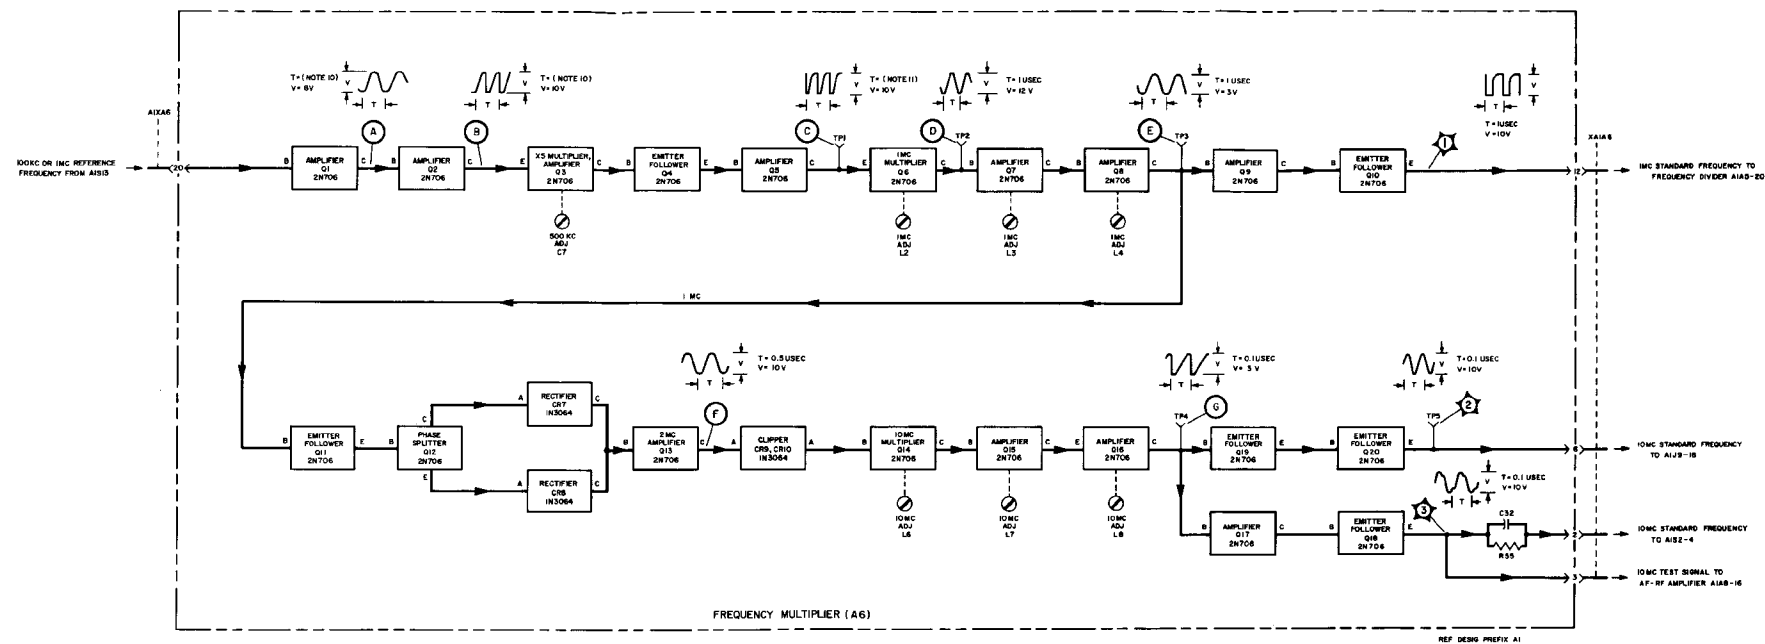

Figure 4-10. 10 Mc and 1 Mc Multiplier, Functional and Servicing Block Diagram
a. 10 MC AND 1 MC MULTIPLIER FUNCTIONAL DESCRIPTION.- The 10 mc and 1 mc multiplier receives the 1-mc standard frequency produced by the radio frequency oscillator or an external 100-kc or 1-mc standard frequency. The multiplier amplifies, multiplies, and shapes these signals to produce the 1-me and 10-mc standard frequencies used throughout the counter. It is a separate assembly constructed entirely on printed circuit board A1A6. Figure 4-10 shows the functional relationship of all circuits in the multiplier and gives test points and waveforms as an aid in trouble shooting.
c. USEFUL ILLUSTRATIONS. - Illustrations useful in maintaining this functional section are: figures 4-10, 5-41, and 5-66.